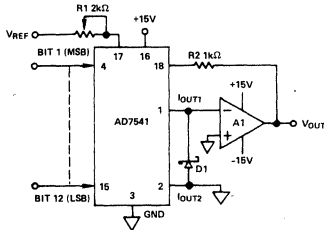

Figure 15. Unipolar Binary Operation
1. Protection diodes as shown in Figures 15 and 16.
function as in Figure 15. Network R5, R6, R7 sum $1/2LSB$ of current into I_{OUT2} to ensure correct coding at zero.
Table 1. Code Table for Circuit of Figure 15.
With the AD7541 connected in its normal multiplying configuration as shown in Figure 15, the transfer function is